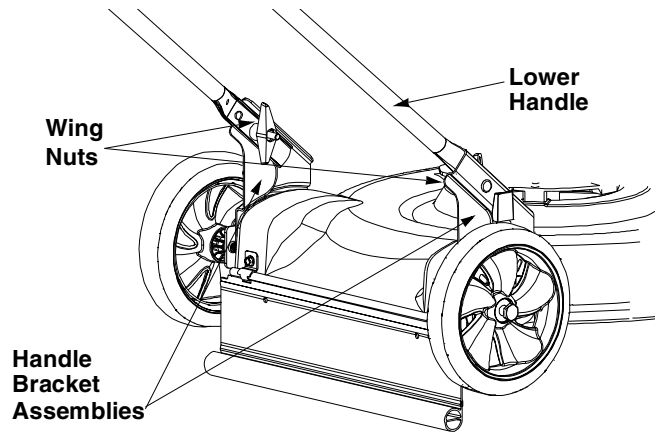

Figure 10
- Disconnect the lower handle from the handle bracket assemblies by removing the wing nuts. See Figure 10.